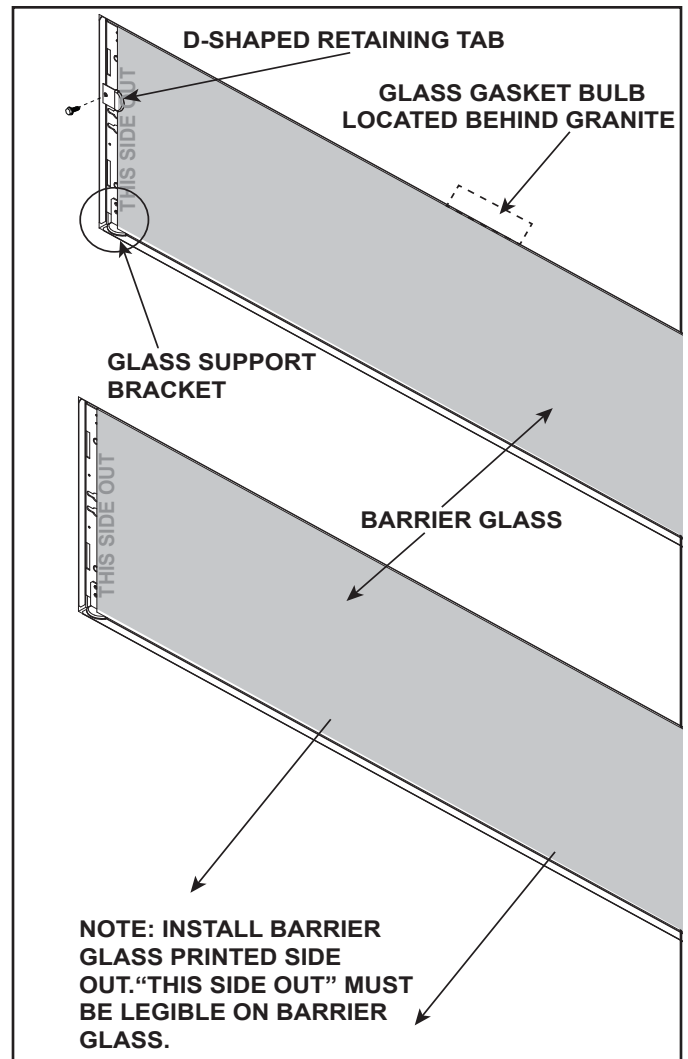

Figure 11.4 Barrier Glass - Black Granite Finish
3. The glass rests against the barrier glass support bracket. See Figure 11.4.
5. Rotate/tilt the bottom of the glass outward to remove. See Figure 11.4.
Note: Ensure the glass gasket is installed. The glass gasket bulb should be positioned on the outside surface of the barrier glass surround as shown in Figure 11.4. It is labeled "THIS SIDE OUT."
3. The glass rests against the barrier glass support bracket as shown in Figure 11.4.
4. Attach and tighten the D-shaped retaining tab. See Figure 11.4.